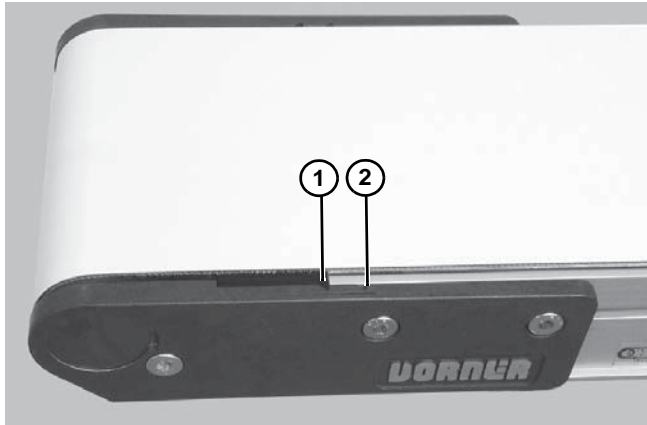

Figure 55
2. Adjust headplate assembly so end of conveyor frame aligns with or between the headplate tensioning marks (**Figure 55, item 1 & 2**). Replace belt if proper tensioning can not be obtained while aligning the end of the conveyor frame with or between the tensioning marks. See NOTE.